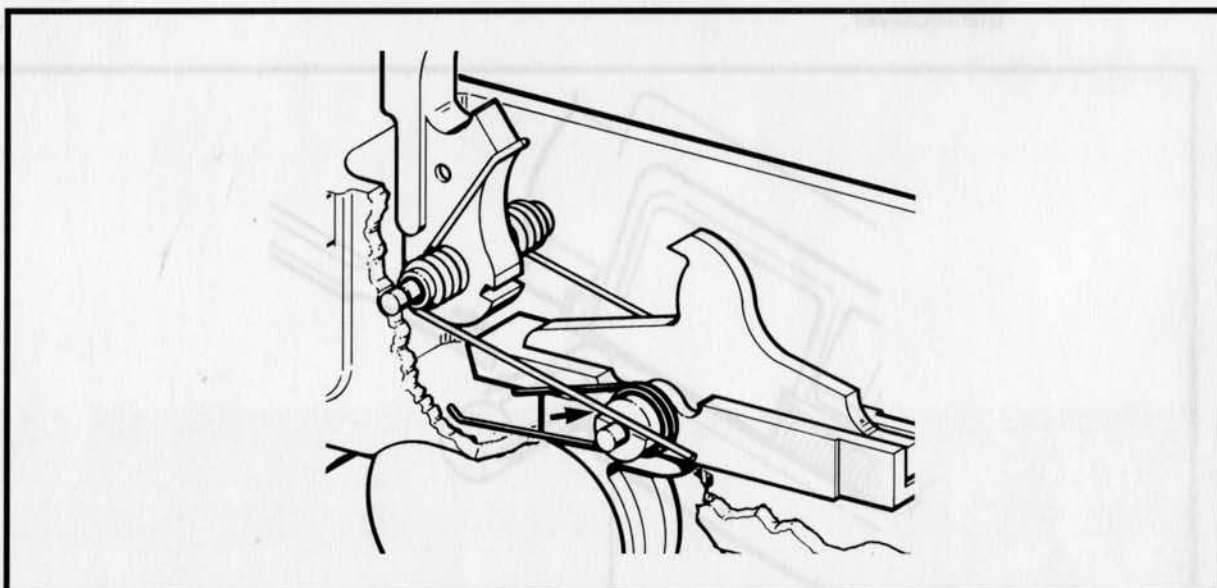

Figure 3-2-49 Position of the Hammer Spring
- (1) Position the assembled hammer and hammer spring with the torsion legs resting on top of the trigger pin. See Figure 3-2-49;
- (2) Align the hammer pin holes; and
- (3) Insert the hammer pin from the left with the ungrooved end leading.